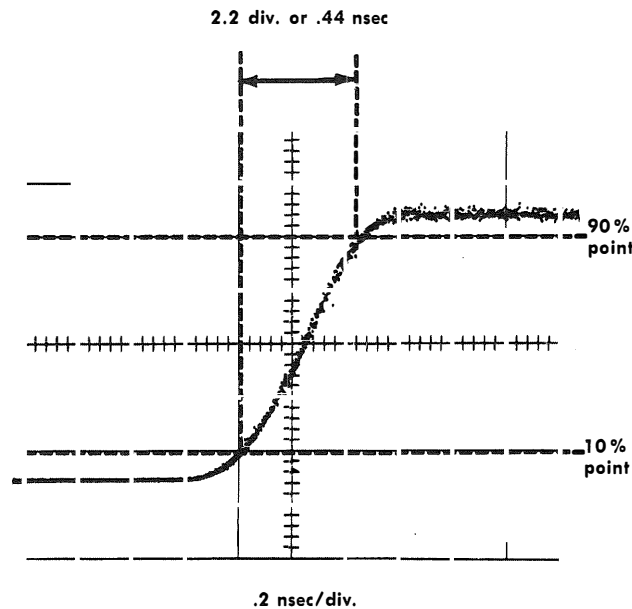

Fig. 6-3. Rising portion of a pulse with the risetime set for 0.44 nanosecond between 10% and 90% amplitude points.
6. Adjust the SNAP-OFF CURRENT adjustment for a risetime of 0.41 to 0.44 nsec, measured between the 10% and 90% amplitude points of the signal (see Fig. 6-3).
2. Adjust the B BRIDGE VOLTS for a risetime of 0.41 to 0.44 nsec between the 10% and 90% amplitude points of the signal (see Fig. 6-3).